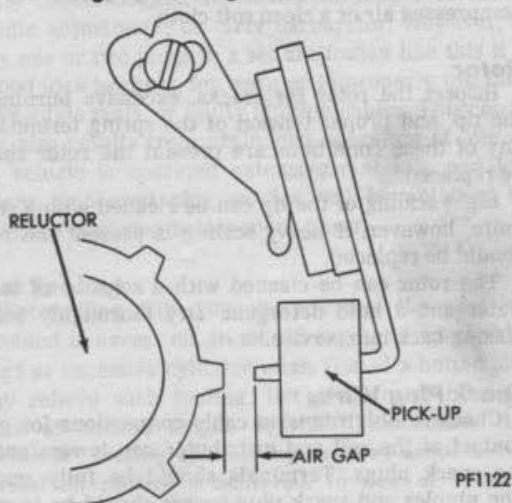

Fig. 15—Air Gap Adjustment
(5) Check air gap between reluctor tooth and pick up coil. To set the gap (Fig. 15), refer to "Air Gap Adjustment" under "Service Procedures."
(7) Check ignition secondary